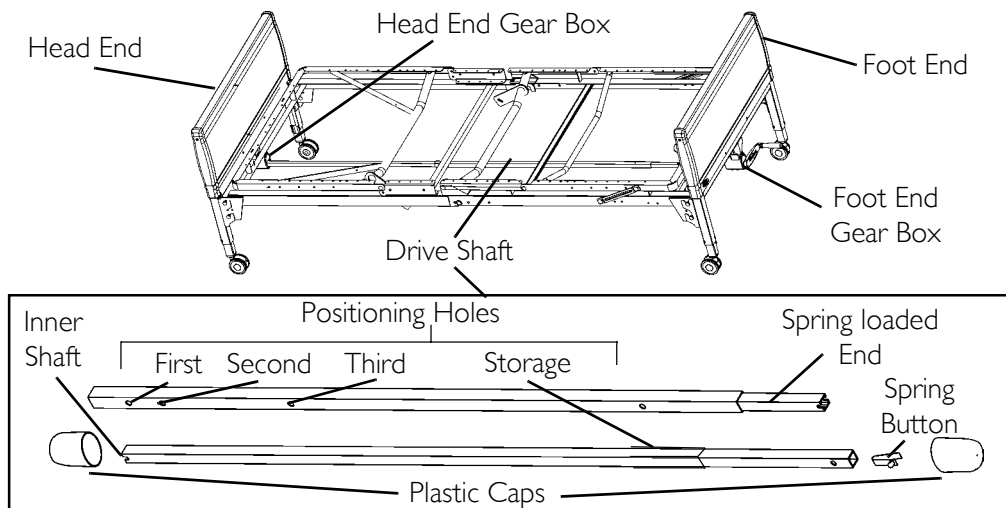

FIGURE 4.9 Assembling the Drive Shaft
NOTE: For this procedure, refer to FIGURE 4.9 on page 28 and FIGURE 4.10 on page 29.
- For semi-electric and manual beds, use the first positioning hole. See FIGURE 4.9.
- For beds with single shaft gear boxes, use the second positioning hole. See FIGURE 4.9.
- For full electric models, use the third positioning hole. See FIGURE 4.9.